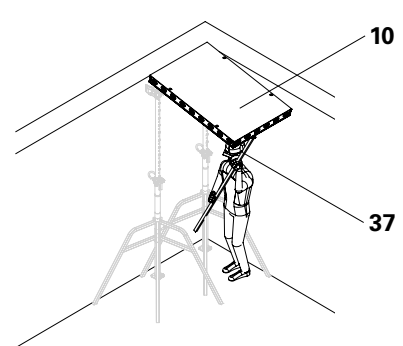
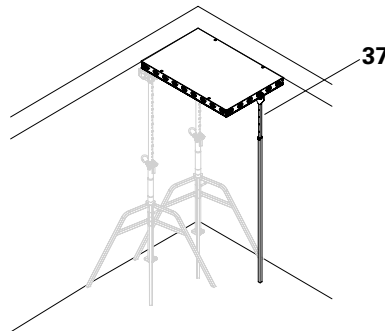

Fig. D2.03
Fig. D2.03a
4. Push the DP panel (10) upwards with the DUO shuttering aid (37) (Fig. D2.03) and position the panel on the shuttering aid. (Fig. D2.03a)